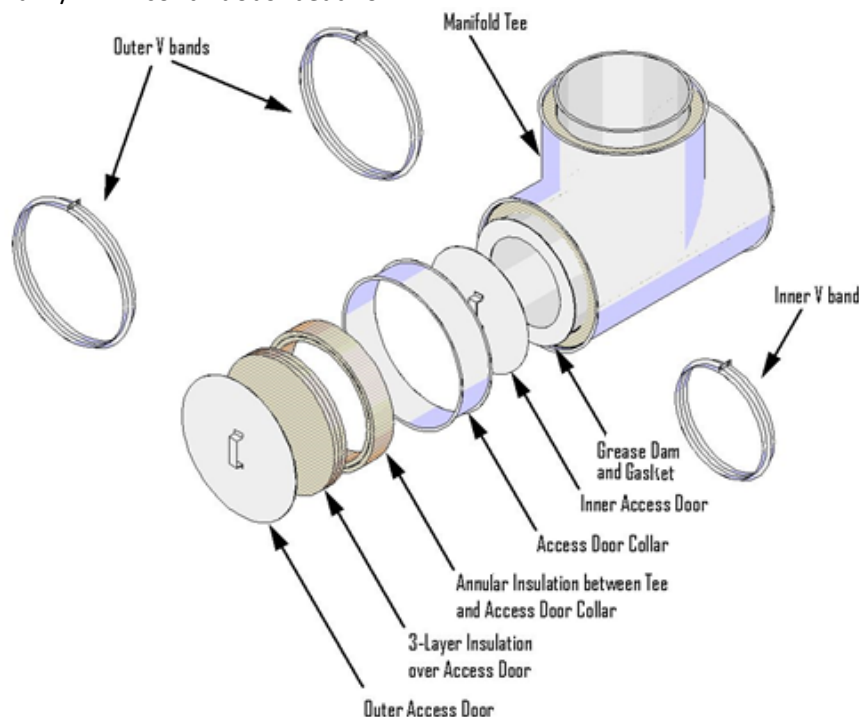

Figure 2. Access Door Assembly
- B. ACCESS DOOR – When required, use the duct manufacturer's manifold tee and access door (tee cap) assembly (see Figure 2). Apply a 1/4 in. continuous bead of sealant (Item 2A) to the inner flange of the tee on the side where access door is to be located. Center the supplied grease dam over the opening of the tee. Verify that grease dam is sealed to the tee flange by applying pressure. Remove excess sealant (Item 2A). Apply supplied Garlock Blue-Gard® 3000 gasket to grease dam with a 1/4 in. continuous bead of